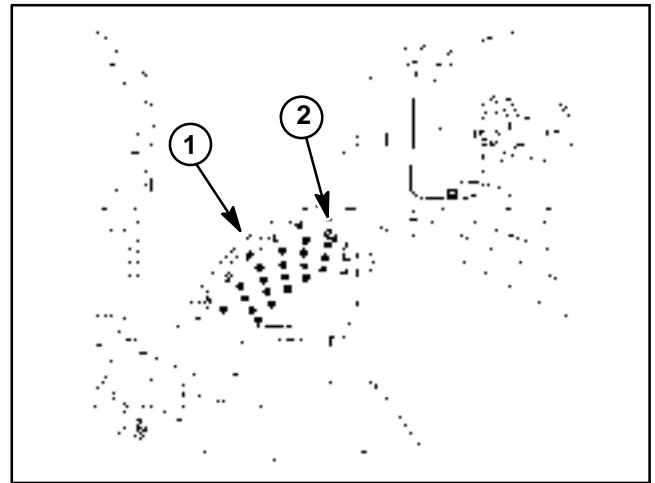

Figure 49
B. If cap screw (item 13) was removed from HOC chain (item 3), insert screw into upper link of chain and thread flange nut (item 12) onto screw with flange away from link. Torque flange nut to **50 ft-lb (67 N-m)**. When fastening chain to front lift arm, torque second flange nut to **50 ft-lb (67 N-m)**. When installing chain to rear lift arm, torque cap screw to **50 ft-lb (67 N-m)**.
4. Start engine and fully raise cutting deck. Stop engine and remove key from the ignition switch. Install HOC pin into HOC bracket to allow desired height-of-cut (Fig. 49).